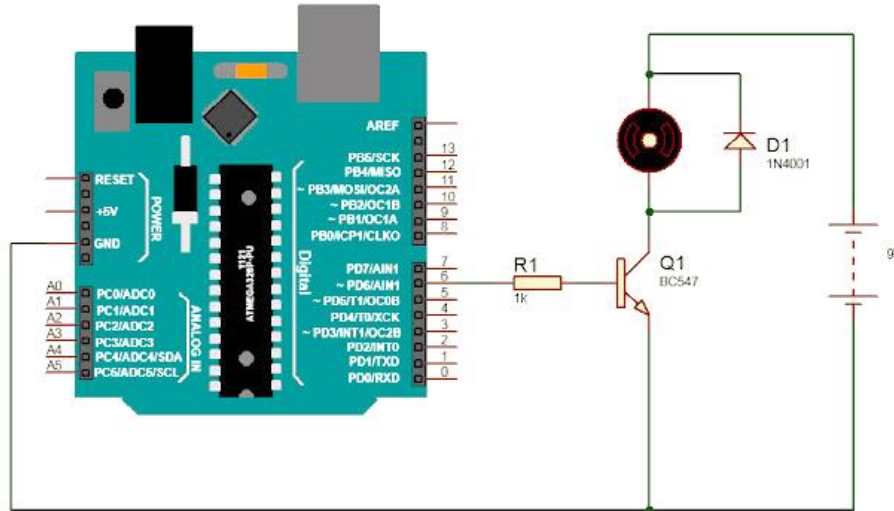

Figure 2: An Arduino microcontroller is controlling a DC motor's speed through an npn transistor.
The Arduino microcontroller can process signals and consumes almost 20 to 40 mA current, but motors need high current and voltage, so we are using the transistor for driving the motor. The transistor is connected in series with the motor and the transistor's base is connected to Arduino's PWM pin through a resistance. The PWM signal is coming from Arduino and the transistor works as a switch that short circuits the Emitter (E) and Collector (C) terminals when the PWM signal is in a HIGH state and normally opens when the PWM signal is in a LOW state. This process works continuously, and the motor runs at the desired speed. The circuit is given in Fig. 2.